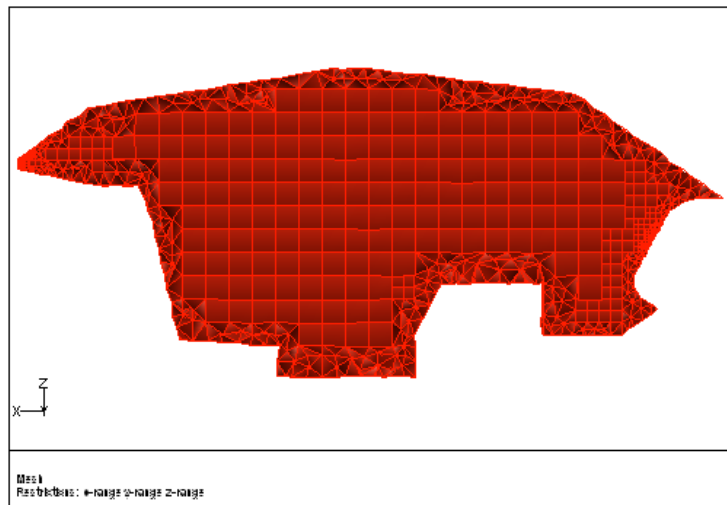

Figure 5.9: Slide of Cells at  $y = 50$  for the Hexcore Mesh With Buffer Layers = 0
3. Display the slide of cells at  $y = 50$  and  $y = -525$  (Figures 5.9 and 5.10).